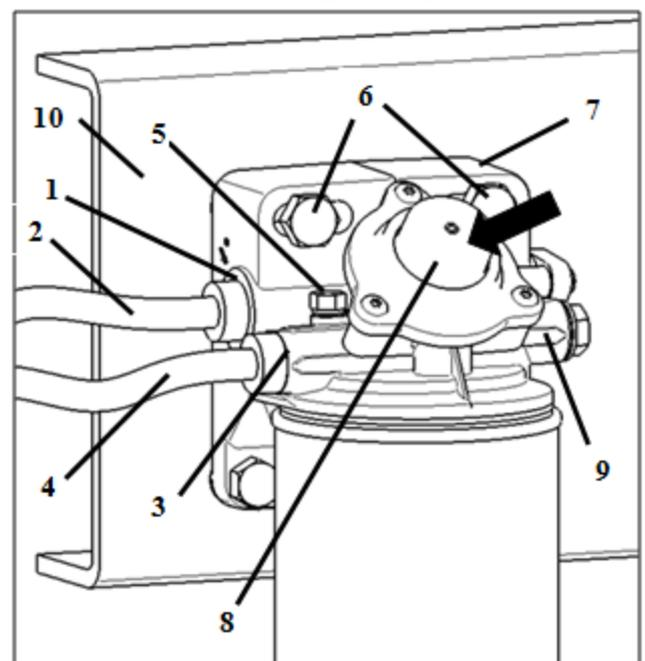

Fig. 3 Assembly
- Select a suitable point on the vehicle frame (Pos.10, Fig. 3) (observe the information in Chapter 4.1).
- Fix the mounting flange (Pos.7, Fig. 3) to the frame (Pos.10, Fig. 3) with two bolts (Pos.6, Fig. 3; M 12 - 8.8) and washers (12.5 - ISO 7090) (Ma = 60 +5 Nm).
- Remove the covering caps from the inlet (Pos. 1, Fig. 3) and outlet (Pos. 3, Fig. 3).
- Connect the fuel lines (Pos.2 and 4, Fig. 3) at inlet (Pos.1, Fig. 3, thread M18 x 1.5) and outlet (Pos. 3 or 9, Fig. 3, thread M18 x 1.5).
- Ensure that the water drain plug is closed (also refer to Fig. 3).
- Screw the bleed plug a/f 12 (Pos.5, Fig. 3) open.
- Operate the hand pump (Pos. 8, Fig. 3) to draw fuel.